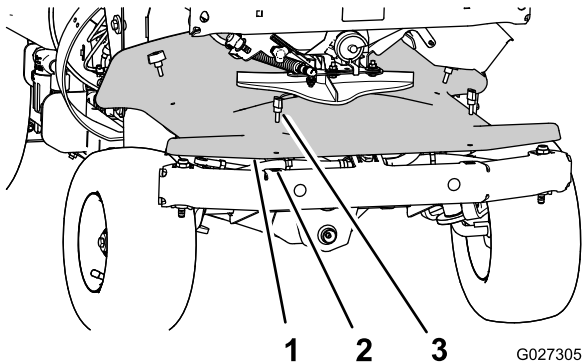

Figure 79
- A. Remove the 4 thumb screws that secure the front cover (below the impeller) to the chassis and remove the cover (Figure 79).